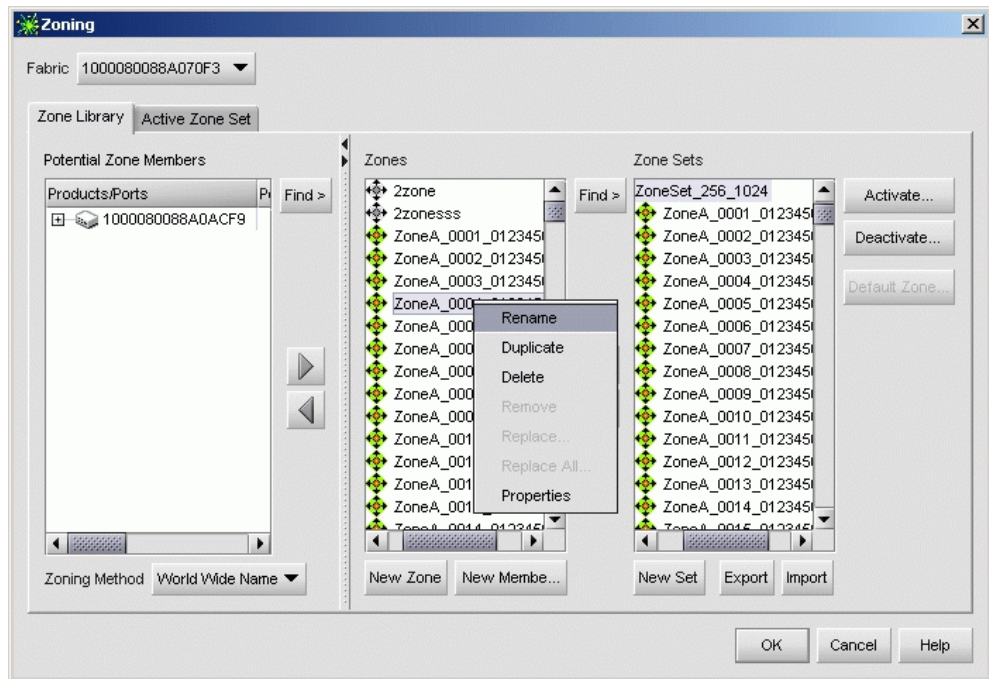

Figure 3-42 Zoning Dialog Box (Zone Library Tab)
- d. Select the *Zoning* option from the menu. The *Zoning* dialog box displays with the *Zone Library* page open (Figure 3-42).
1. At the *Zoning* dialog box, click the *Zone Library* tab. The dialog box returns to the *Zone Library* page (Figure 3-42 on page 3-103).